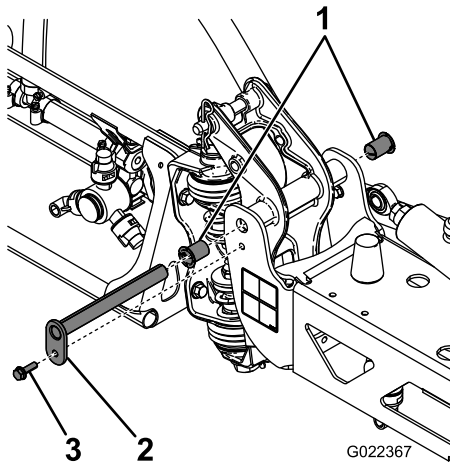

Figure 62
3. With the weight of the boom supported, remove the bolt and nut securing the pivot pin to the boom assembly (Figure 62).
7. Place a small amount of oil on the nylon bushings, and install them into pivot bracket (Figure 62).
8. Install the boom and pivot bracket assembly into the center frame, aligning the holes (Figure 62).
4. Remove the bolt and nut that secure the pivot pin, and remove the pin (Figure 62).
6. Remove and inspect the nylon bushings from the front and back sides of the pivot bracket (Figure 62).